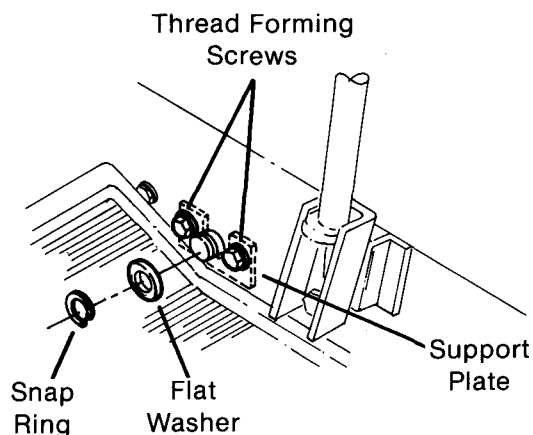

FIG. 68A
- B. On left end of shaft remove a snap ring and flat washer (Fig. 68A)
- C. Remove two thread forming screws holding support plate to left inside of main frame. Remove support plate (Fig. 68A).